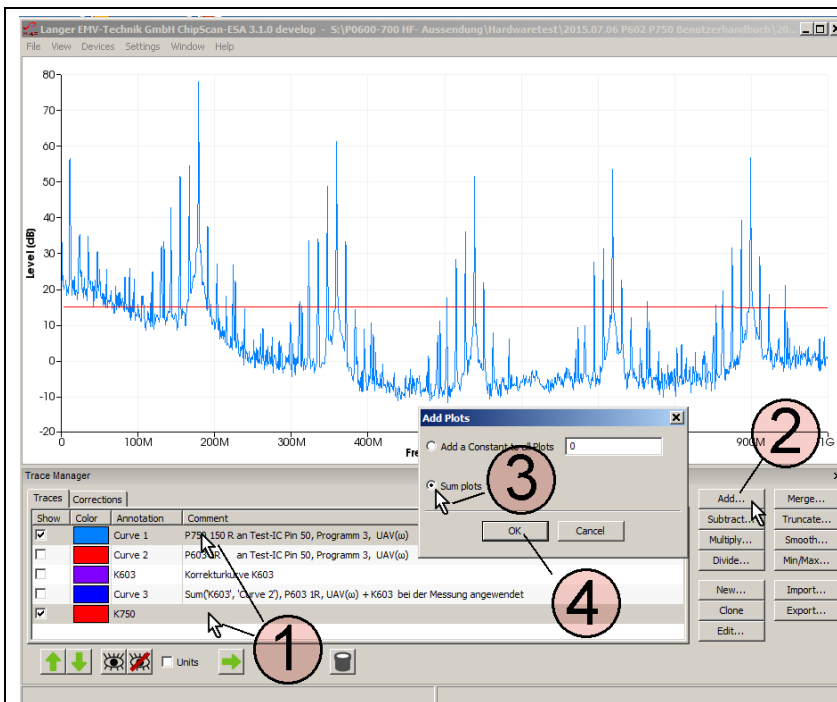

Figure 32: Correction after the measurement; performing the addition  $U_{IC} = U_{AV} + K750$
Mark the Curve 1 ( $U_{AV}$ ) curve and the K750 curve in the Traces list **Figure 32** in the Trace Manager with the mouse cursor ①. Open the mathematical operation "Add..." (addition) and activate "Sum up all Plots" (**Figure 32** mouse cursor ③). Click OK ④ to perform the addition  $U_{AV} + K750$ .